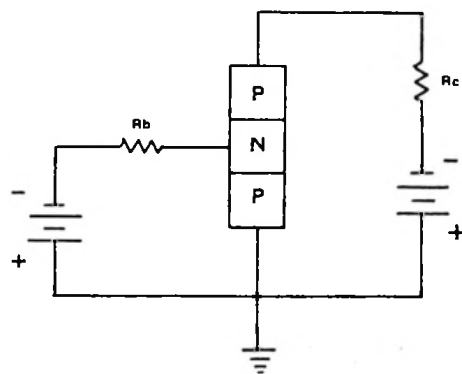
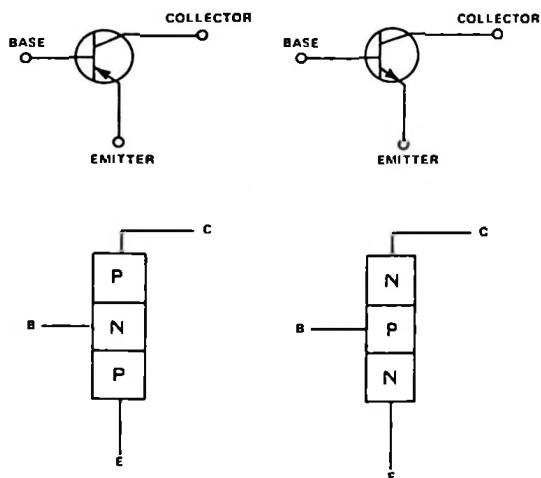

FIGURE 6 (FRAME 13)
FIGURE 5 (FRAME 13)
13 A transistor is formed when an additional semiconductor region is added to a PN diode to form a PNP or NPN arrangement as shown in figure 5. The center region is called the base while the outer regions are called the collector and emitter as shown in the diagram. Let's consider the action of the PNP transistor in the grounded emitter or common emitter circuit shown in figure 6. Common collector and common base configurations are also possible, but the most useful transistor amplifier stage is the common emitter. For normal operation the base-emitter junction is forward biased while the base-collector junction is reverse biased. The forward voltage on the base-emitter junction, forces holes into the base region and electrons into the P region as with the PN diode. However, because of the large reverse bias of the base-collector junction, not all of the holes combine with electrons in the base region. Instead, most of them are attracted to the negative battery terminal at the collector and are said to diffuse through the base region. In the collector, holes combine with electrons that enter from the negative battery terminal which results in electron flow through the output circuit. Some holes combine with electrons in the base region causing base current through resistor R_B . Base current is also produced by electrons from the base crossing the base-emitter junction and combining with holes in the emitter.
- 3) Increase the reverse bias on the base-collector junction for the circuit shown in figure 6 . . . Turn to frame 21.